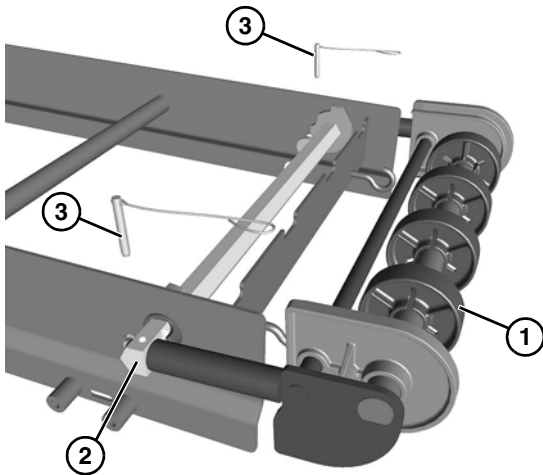

Figure 23
1. Place the idler tail assembly (Figure 23, item 1) against the holes in the tip up hex shaft assembly (Figure 23, item 2) and secure with a pull pin (Figure 23, item 3) on each side.